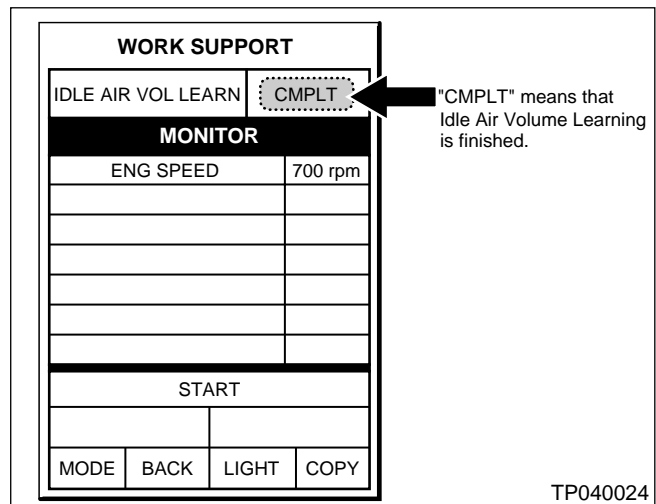

Figure 5
- CONSULT will display “CMPLT” in the top right corner of the screen when the IAVL procedure is finished. See Figure 5.